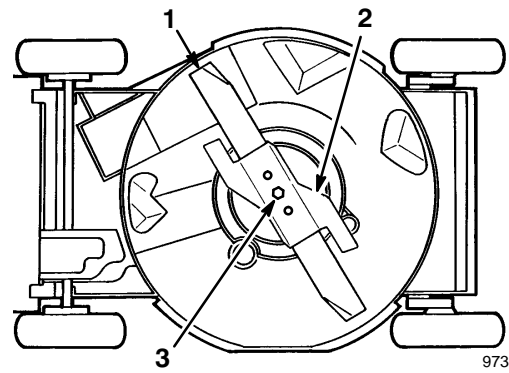

Figure 20
4. Tip the lawn mower onto its left side (Fig. 20).
Grasp the end of the blade using a rag or thickly padded glove. Remove the blade bolt, the lock washer, the accelerator, and the blade (Fig. 20).